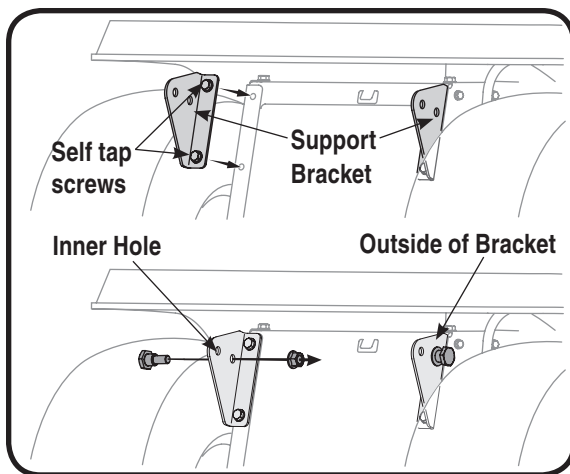

Figure 3-9
1. Locate the four self-tapping screws supplied in your hardware pack (B from Fig. 2-2). Attach the right hand grass catcher support bracket (F1 from Fig. 2-2) using two of the supplied screws in position as shown in Fig. 3-9. Place the left hand grass catcher support bracket (F2 from Fig. 2-2) in position and secure with the other two screws.
2. Insert a shoulder bolt (C in Fig. 2-2) through the Inner hole (closest to the frame) on the outside of the support bracket. Secure with a nut (A in Fig. 2-2). See Fig. 3-9 for details. Repeat on other side.